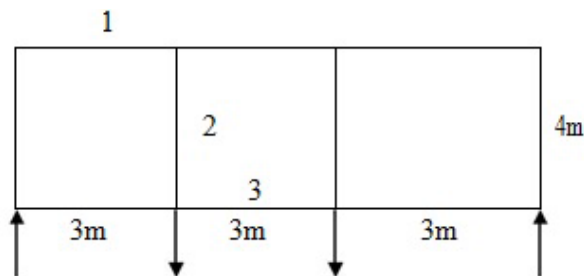

Figure 2
- (b) A truss of span 9m is loaded as shown in figure 2. Find the reaction and forces in the members marked 1, 2, and 3 by using method of section. (16)